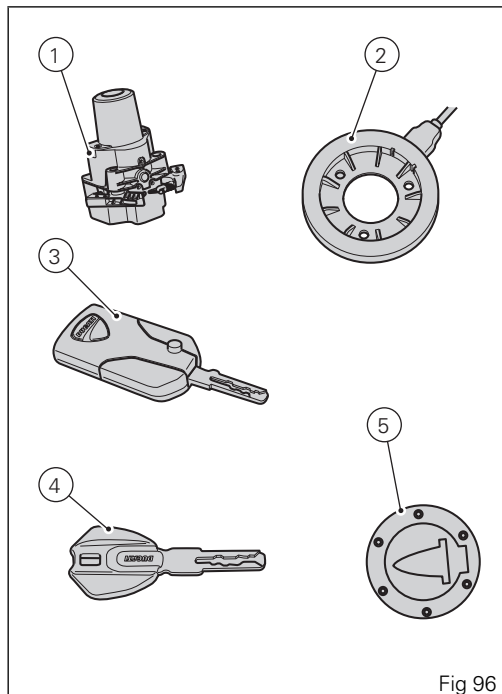

Fig 96
A Key-On can be performed by pressing the red button (6) on the handlebar in the HANDS FREE ON/OFF position and in the presence of the active key (3, Fig 96).
Key-Off can be performed by pressing the red button (6) on the handlebar in the HANDS FREE ON/OFF position. It can also be performed without the key (3, Fig 96) only if motorcycle speed is equal to zero.
with active key. Key-On can be performed by pressing button (7) on the Hands free lock (1, Fig 96) and with the presence of the active key (3, Fig 96).
Key-Off can be performed by pressing button (7) on the Hands free lock (1, Fig 96), also without the key (3, Fig 96).
A Key-On can be performed by pressing the red button (6) on the handlebar in the HANDS FREE ON/OFF position and in the presence of the passive key (4, Fig 96).
Key-Off can be performed by pressing the red button (6) on the handlebar in the HANDS FREE ON/OFF position. It can also be performed without the key (4, Fig 96) only if motorcycle speed is equal to zero.
Key-On can be performed by pressing button (7) on the Hands free lock and with the presence of the passive key (4, Fig 96).
Key-Off can be performed by pressing button (7) on the Hands free lock (1, Fig 96), also without the key (4, Fig 96).
Key-On can be performed by pressing button (7) on the hands free lock (1, Fig 96) without the presence of the keys (3, Fig 96) and (4, Fig 96) and entering the pin code on the instrument panel.